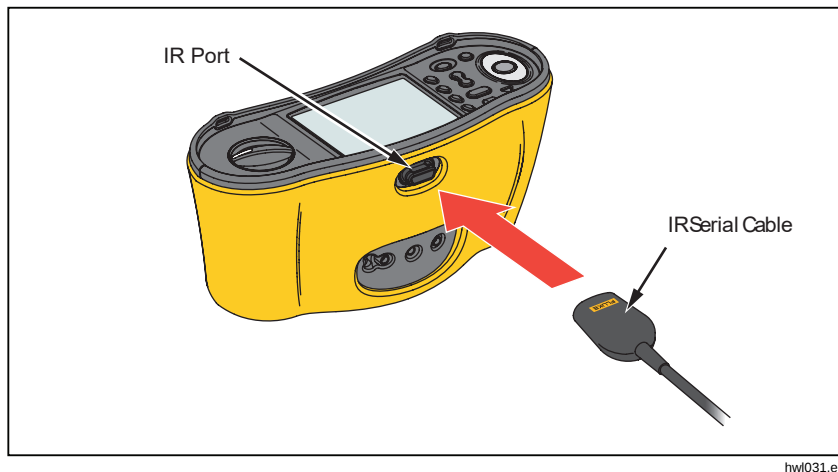

Figure 16. IR Serial Cable Attachment hwl031.eps
1. Connect the IR serial cable to the serial port on the PC and the IR port on the Tester. See Figure 16.